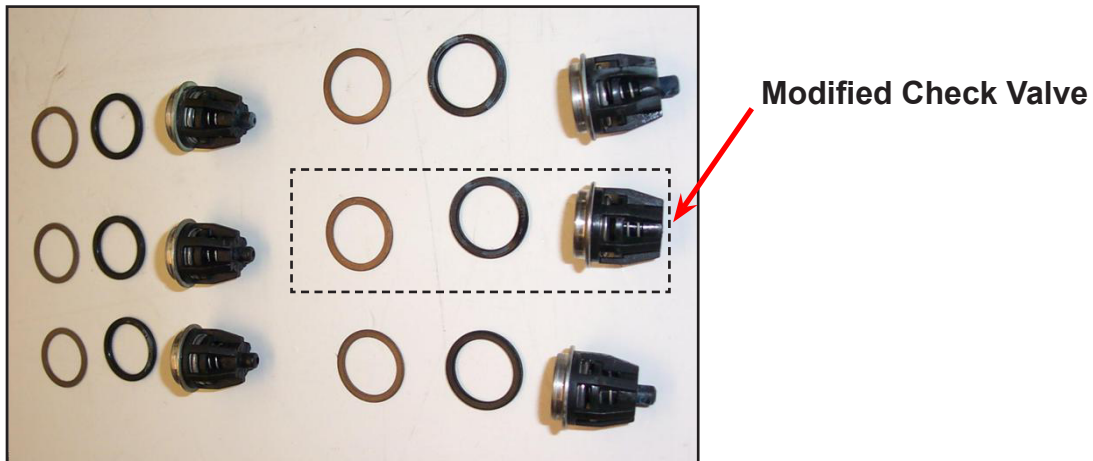

Figure 5-3. Replace Center Inlet Check Valve With Modified Check Valve
7. Replace the center inlet check valve with a modified check valve (P/N 000-169-212 - Figure 5-3).